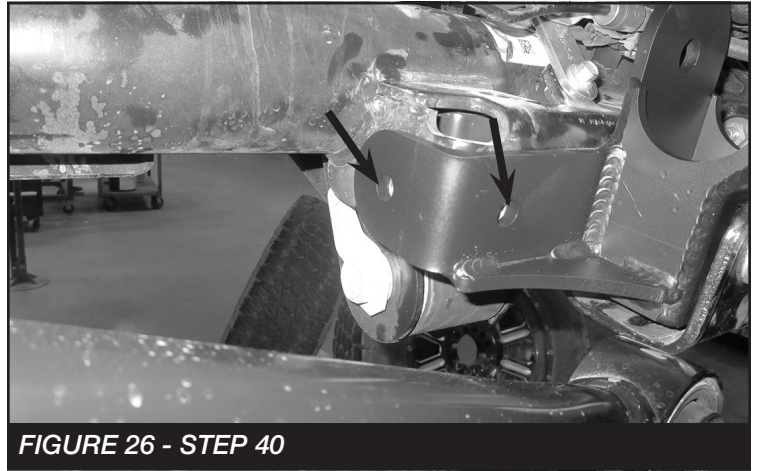

FIGURE 26 - STEP 40
40. Install FT30991(Track bar bracket) onto the factory axle mount using the factory bolt. Then, using the new bracket mark the two holes on the factory mount. Remove the bracket and drill the holes using a 1/2" drill bit. **SEE FIGURE 26**
42. Install the track bar to the new Fabtech bracket using the supplied 5/8" hardware. Torque to 170 ft-lbs. **SEE FIGURE 26**